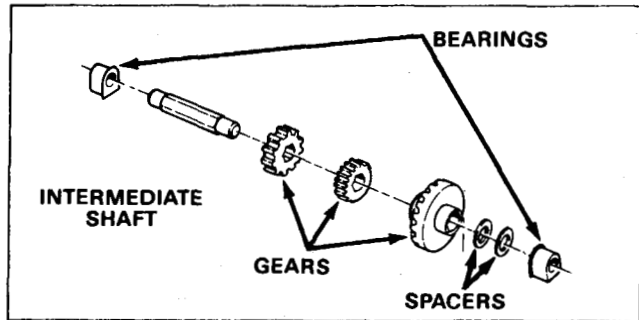

Figure 51
15. Slip an intermediate shaft bushing onto the left end of the intermediate shaft, flanged end first. See Figure 51.